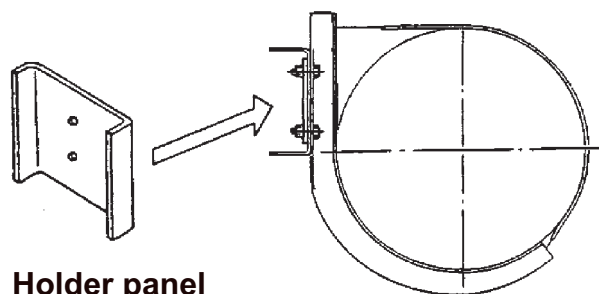

Fig. 1
- Attach a stiffener to the inside of the side rail as shown in Fig. 1 when installing bolts to support heavy components on the side rail overhang. This will prevent cracks in the frame due to resonance of the component if the static load caused by the weight of the component exceeds 100 kg of force for each bolt.